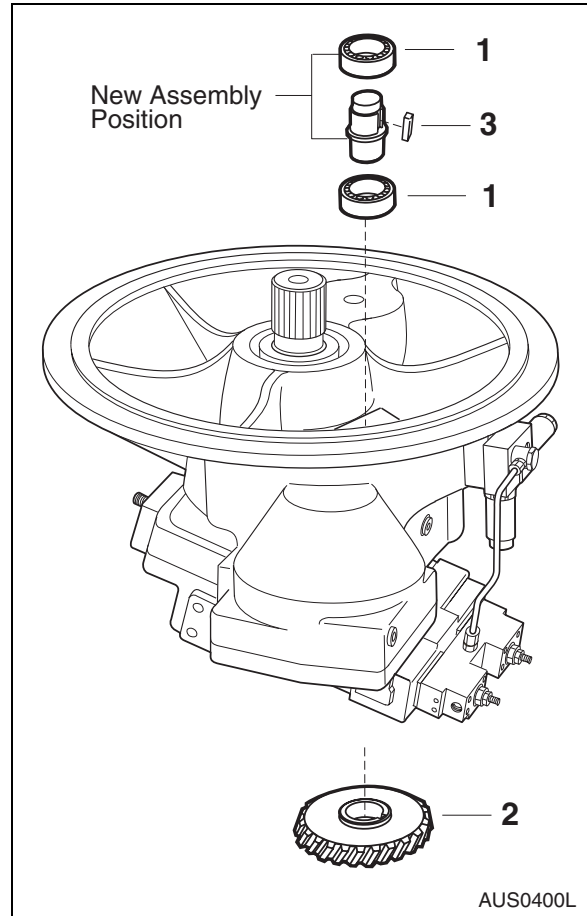

Figure 112
1. Press bearing (1, Figure 112) into housing.
2. Install and align intermediate wheel (2, Figure 112) through side drive opening.
3. Cool down bolt (3, Figure 112) with nitrogen and install it.
4. Press in bearing (4, Figure 112).